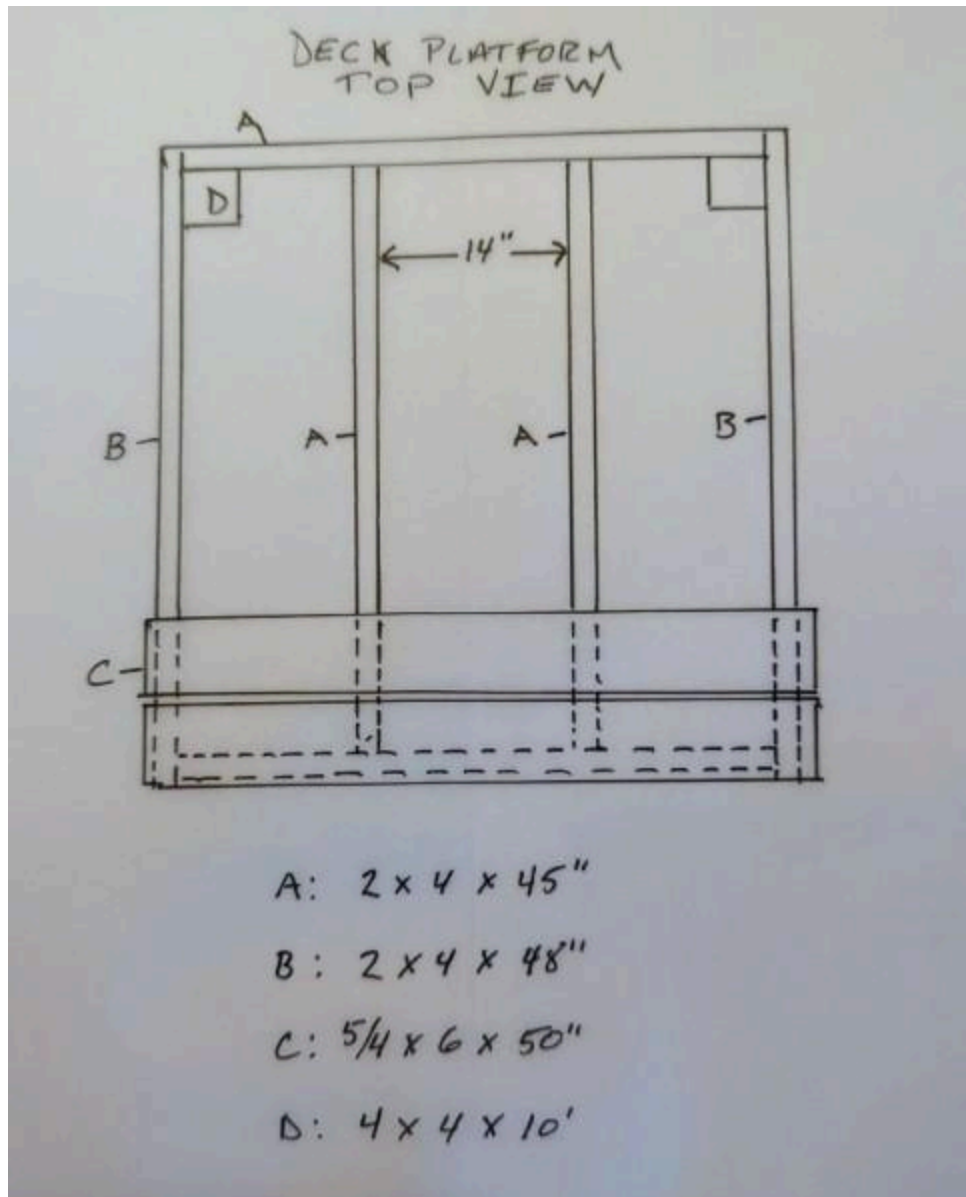

Figure 11
- Assemble the rim and deck joists as shown in Figure 11.